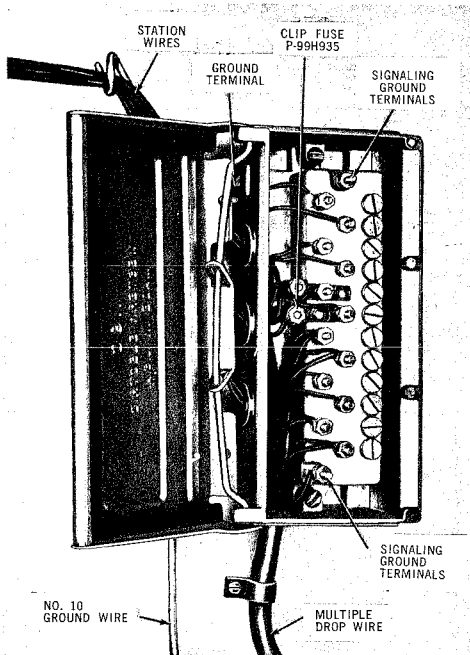

Fig. 3 - 116C Protector (Outdoor)
2.03 116C Fuseless Protector (Fig. 3) is arranged for fastening to mounting surface without requiring a separate mounting bracket. The signaling ground terminals are located at each end of the terminal block. It is equipped with 2A1A-3 mil. protector units.